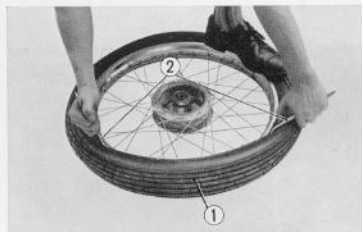

Fig. 4.87 Removing tire ① Tire ② Tire lever
12. Remove the tire ① from the rim with the tire lever ② and pull out the tube from the casing. (Fig. 4.87)